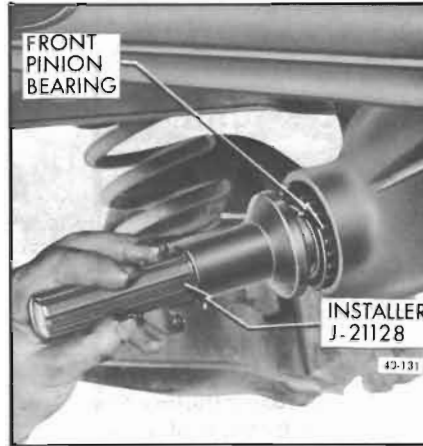

Figure 40-131—Installing Front Pinion Bearing
2. Place front pinion bearing in position on pinion. Hold pinion fully forward and drive bearing over pinion until seated. Use Installer J-21128. See Figure 40-131.